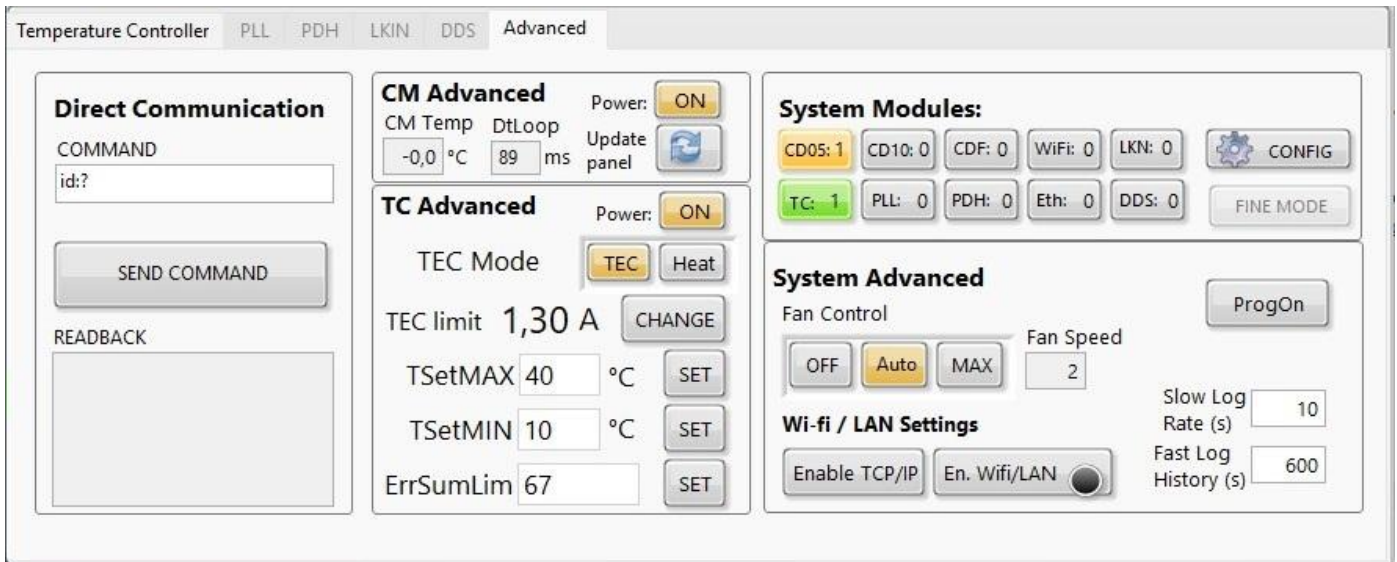

Figure 13: The QubeCL_Control software Advanced tab
- In the TC Advanced section of the Advanced tab (Figure 13), that can be found in the lower panel, use the **TEC limit** control to set the **maximum current** that the TC controller may source to the Peltier stage. To do so, you must press the correspondent **CHANGE** button.